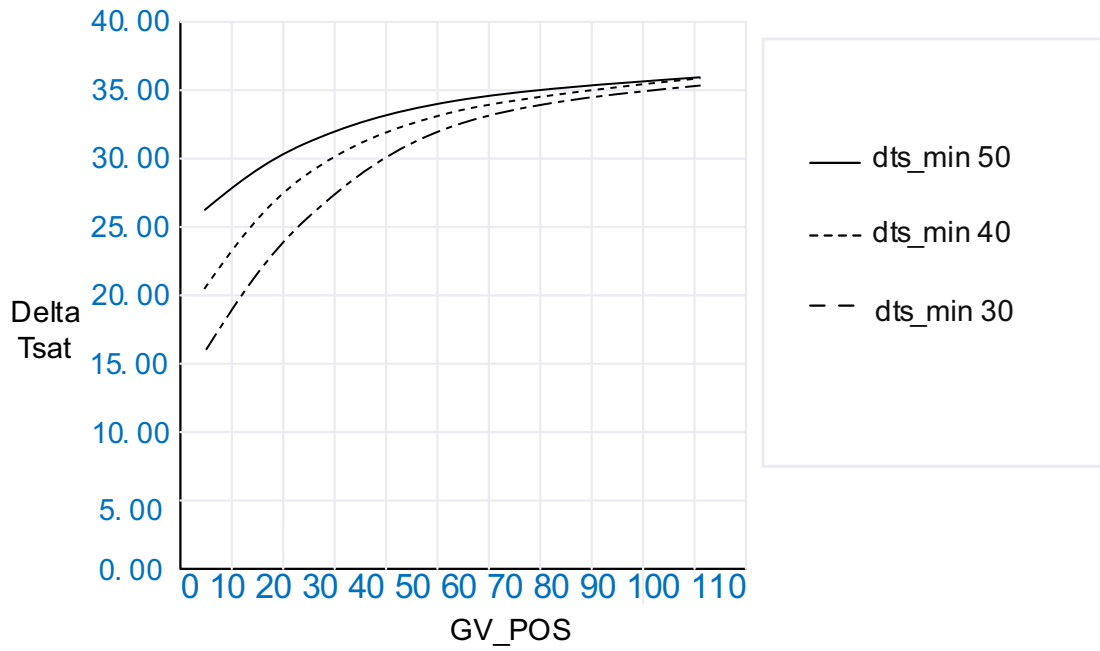

Fig.37 Effect of SURGE DELTA TSMAX on Surge Prevention
- If chiller surges only at low load region, Delta T_{min} should be decreased by **0.28°C** for each step until there is no abnormal surge occurs. **See Fig.37** for the effect of delta T_{min} on surge prevention line.
- If the problem only occurs at low load region, Delta T_{min} should be increased by **0.28°C** for each step until chiller enters real surge. **See Fig.37** for the effect of delta T_{min} on surge prevention line.